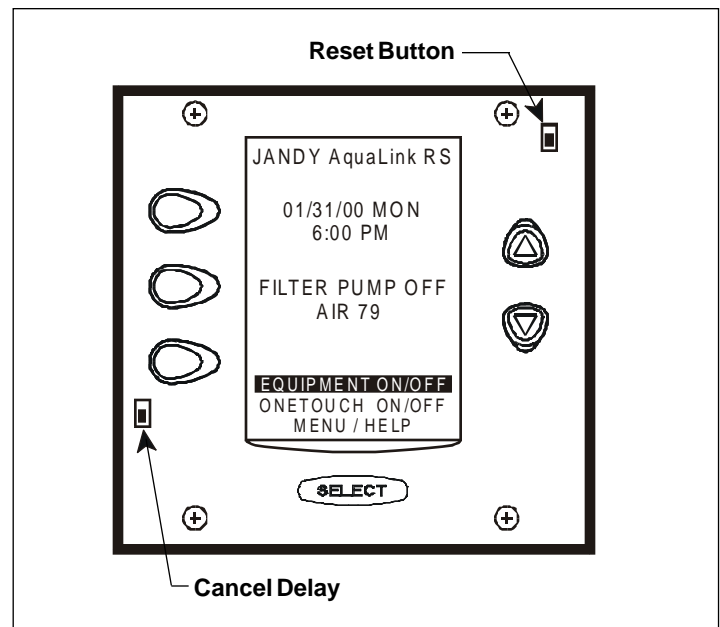

Figure 6. Location, Cancel Delay and Reset Buttons
5. Figure 6 shows the locations of the Cancel Button and the Reset Button on the OneTouch PCB.